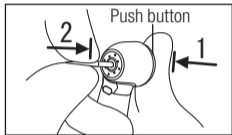

Fig. 9
- 2 Depress the push button to open the chuck (1) (Fig. 9).
- 3 Insert the bur fully into the chuck until it stops (2) then release the push button (Fig. 9).